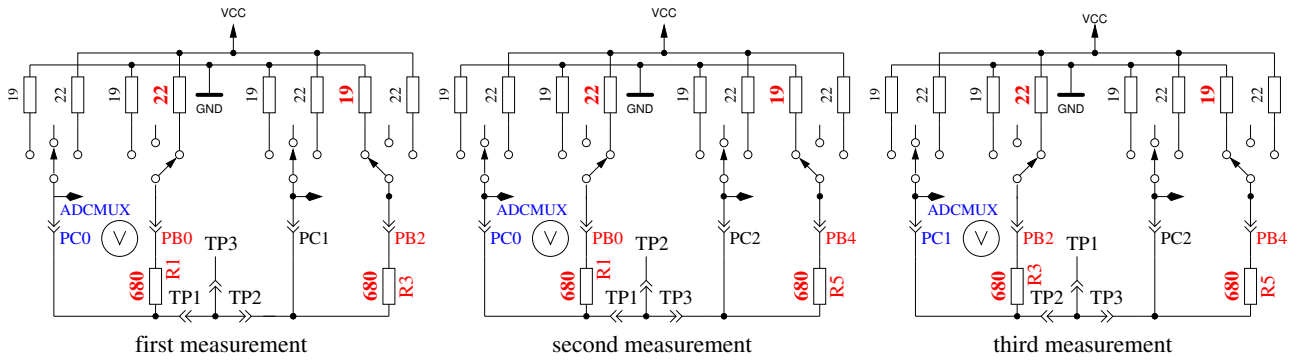

Figure 4.26: Comparison of 680Ω resistors
2. **Comparing of the 680Ω resistors.** In row 1 the cryptic text “+RL- 12 13 23” is shown. Meaning of this is as follows: The RL is the short form of Resistor Low meaning the 680Ω resistors. The 12 stand for: resistor at pin 1 is connected to VCC (+) and resistor at pin 2 is connected to GND (-). The result of this measurement is displayed in row 2 at the first place. In row 1 follows now a “13” which means, that the first connection of measurement 1 is still connected with 680Ω to VCC but that the resistor of pin 3 is connected to GND. The result is displayed in the middle place of row 2. The last measurement of this test “23.” means that now the resistor at pin 2 is connected to VCC (+) and the resistor of pin 3 is connected to GND. The result of measurement is displayed at the last place of LCR row 2. Please remember, that the resolution of the ADC is about 4.88mV! The measurement situation is also shown in figure 4.26. All these combinations with respect to the internal resistance of the pins should result to: